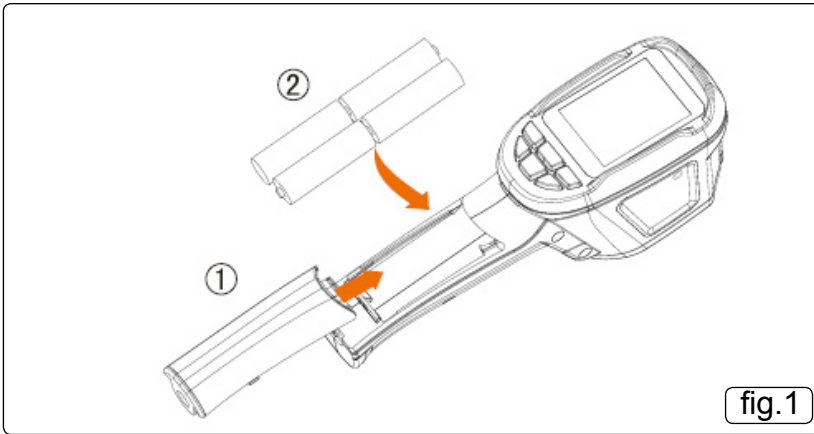

fig.1
4.1.1. Install the four battery's into the Thermal Imaging Camera (fig.1) ensuring the correct polarity.